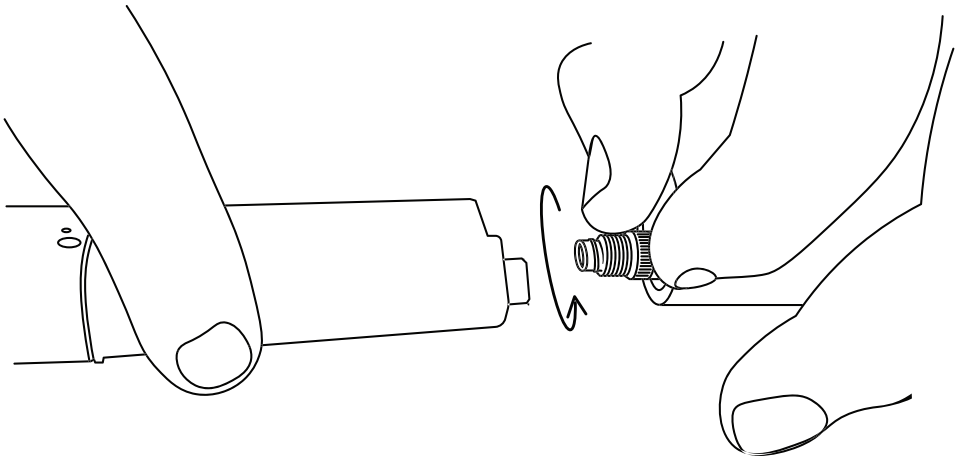

Figure 18 Unscrew the M8 cable connector
3. Unscrew the M8 cable connector from the module and pull the connector out (Figure 18).